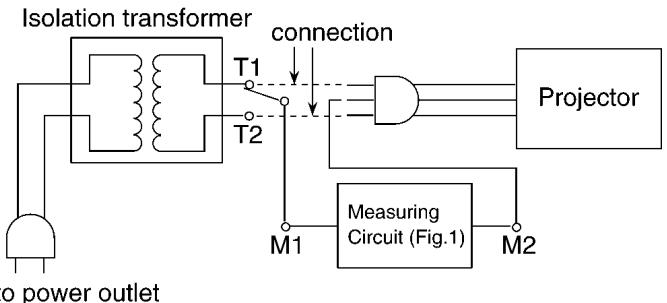

Fig. 2
- Assemble the circuit as shown in Fig. 2. Plug the power cord in a power outlet.
- Connect M1 to T1 according to Fig. 2 and measure the voltage.